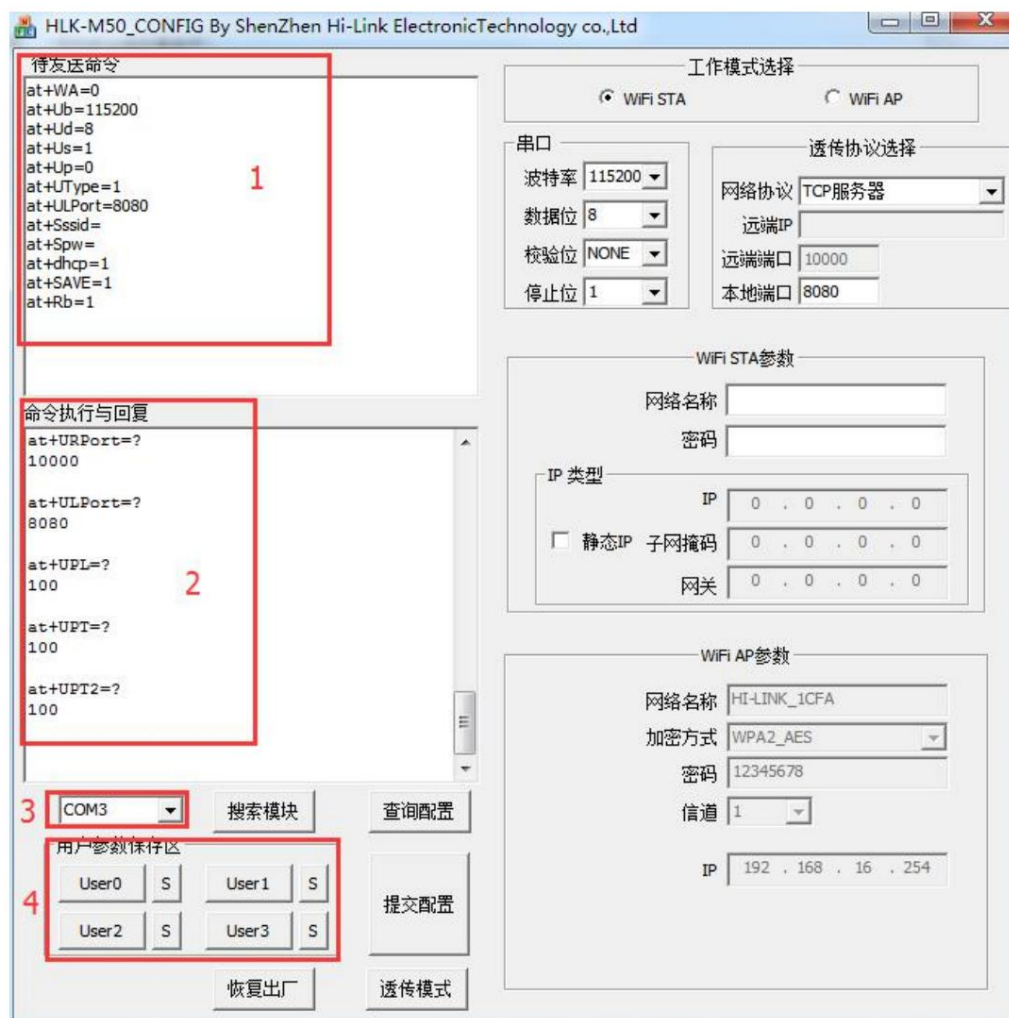

Figure 6. PC configuration tool interface
- 2) Open the HLK-M20\_CONFIG configuration tool and set the option in position 3 in Figure 6 to the serial port connected to the module.
Click the search module button, and the following content appears in the reply box at position 2 in Figure 6, indicating that the search is successful.
4) Modify the configuration values as needed in the graphical interface on the right. After modification, the waiting command at position 1 in Figure 6 will be
The module is configured by the command execution and reply box at position 1 in Figure 6.